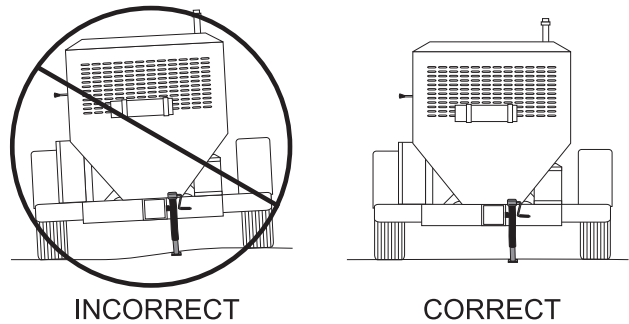

Figure 17. Rear Stabilizer Stand Deployment
3. Position both rear stabilizer jacks on firm (not loose) **level** ground (Figure 17).